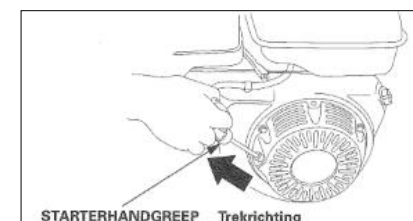

Figure: 30
- Use the pull cord (see figure 30) if the electric start does not function.
- Once the engine is running and if you had the choke in the **CLOSED** position for a cold start, gradually move the choke to the **OPEN** position as the engine warms up (see figure 30).